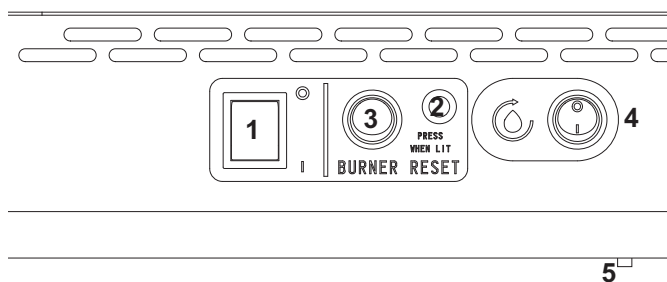

Figure 4 – G401F & G402F - Additional Controls
2.4.3 G401F & G402F - Additional Controls (See Figure 4)
8. The neon next to burner switch inside door will illuminate to indicate that lockout has occurred and that no burner flame is present. G401F/G402F Additional controls - Item 2 on Figure 4.
10. Press lockout reset switch. See Figure 4 (*Lock out indicator will extinguish*).
To re-set temperature limit thermostat, refer to Figure 4.